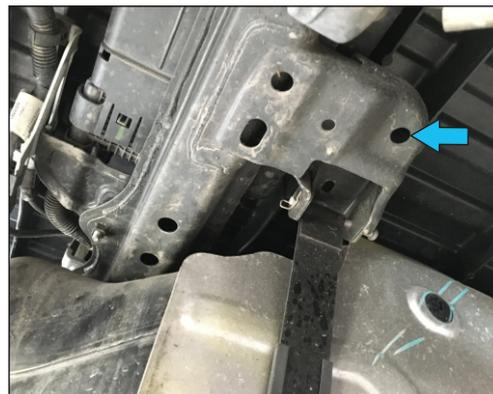

Fig. 6
6. Install the rear right mounting bracket (pos.5), using Bolt M8x40 (B), Flat washer 8mm (pos.D) and Spacer (pos.F) (Fig. 6).